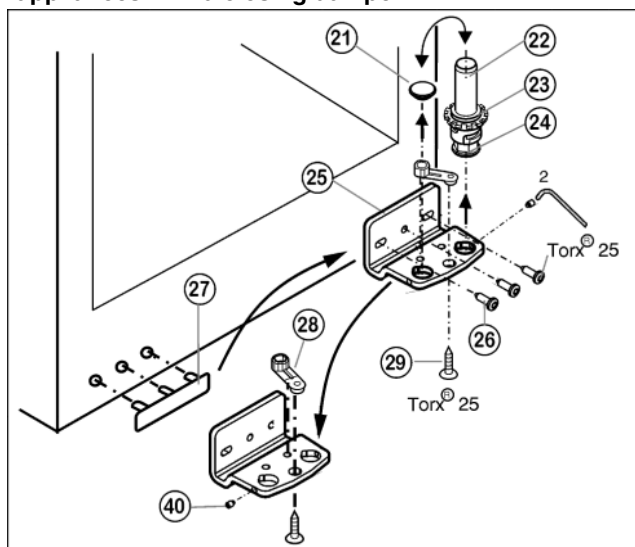
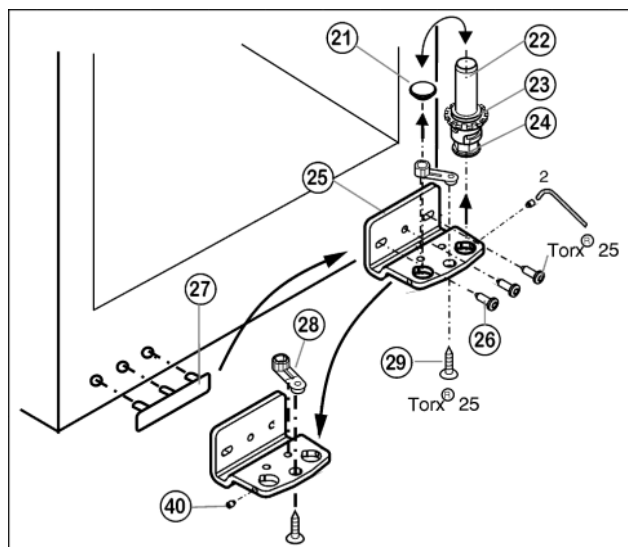

Fig. 7*
Fig. 8*
- ▶ Using the accompanying Allen key, unscrew the threaded pin Fig. 7 Fig. 7 Fig. 7 Fig. 7 Fig. 7 (40) by about 1 turn.
- ▶ Turn and lift out the bearing pin Fig. 7 Fig. 7 Fig. 7 Fig. 7 Fig. 7 (22) together with washer Fig. 7 Fig. 7 Fig. 7 Fig. 7 Fig. 7 (23) and adjustable-height foot Fig. 7 Fig. 7 Fig. 7 Fig. 7 Fig. 7 (24).
- ▶ Lift off the stopper Fig. 7 Fig. 7 Fig. 7 Fig. 7 Fig. 7 (21).
- ▶ Unscrew the turn hinge Fig. 7 Fig. 7 Fig. 7 Fig. 7 Fig. 7 (25).
- ▶ Fully unscrew the threaded pin Fig. 7 Fig. 7 Fig. 7 Fig. 7 Fig. 7 (40) and screw it in on the opposite side, at the turn hinge, until it is flush outside with the turn hinge.
- ▶ Unscrew the bearing element Fig. 7 Fig. 8 (28), turn it through 180° and screw it firmly into place.
- ▶ Unscrew storage section Fig. 7 Fig. 8 (28) and fit it to the opposing locating bore in the mounting block, then tighten it down.
- ▶ Re-insert the stopper Fig. 7 Fig. 7 Fig. 7 Fig. 7 Fig. 7 (21) into the other hole.
- ▶ Carefully lift off the cover on the handle side Fig. 7 Fig. 7 Fig. 7 Fig. 7 Fig. 7 (27) and transfer it to the opposite side.
- ▶ Screw the turn hinge Fig. 7 Fig. 7 Fig. 7 Fig. 7 Fig. 7 (25) firmly into place on the new hinge side, possibly using a cordless screwdriver (with 4 Nm).
- ▶ Re-insert the bearing pin Fig. 7 Fig. 7 Fig. 7 Fig. 7 Fig. 7 (22) together with washer and adjustable-height foot.
- ▶ Tighten the threaded pin Fig. 7 Fig. 7 Fig. 7 Fig. 7 Fig. 7 (40).
- ▶ Place the door from above onto the lower bearing pin Fig. 7 Fig. 7 Fig. 7 Fig. 7 (22).
- ▶ Align the door to the appliance housing by way of the two oblong holes in the bottom turn hinge Fig. 7 Fig. 7 Fig. 7 Fig. 7 (25). To do so, unscrew the middle screw.